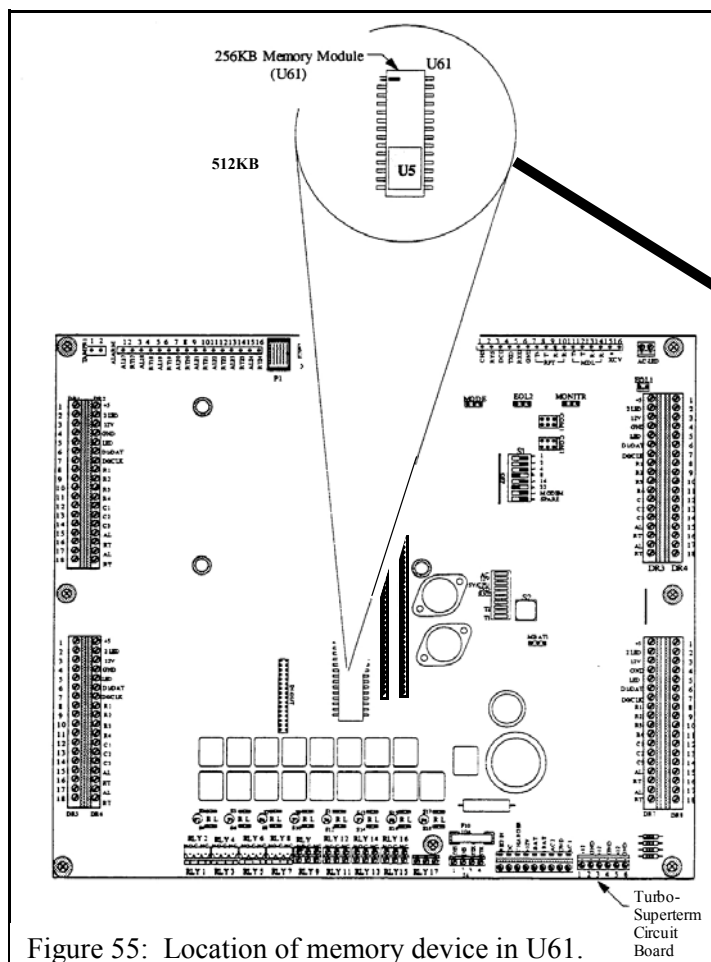

Figure 55: Location of memory device in U61.
5. If installing a second memory card in the left vertical memory socket of the Turbo Superterm boards, you **MUST** first remove the memory device (chip or module) from location U61 (see Figure 55 and 55a, below). Always use the proper tool to remove the device, such as a DIP removal tool.